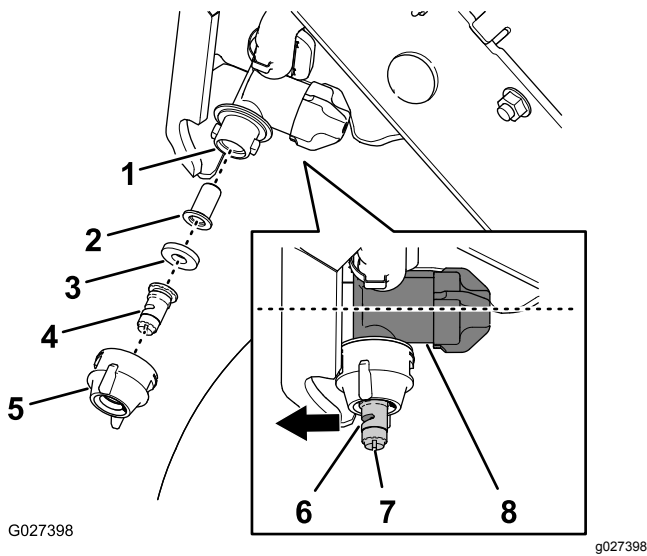

Figure 53
1. Rotate the nozzle cap 90° counterclockwise and remove the cap from the nozzle body (Figure 53).
2. Remove the sprayer tip, gasket, and strainer from the nozzle body (Figure 53).
4. Assemble the strainer into the nozzle body (Figure 53).
5. Assemble the sprayer tip and gasket into the nozzle cap (Figure 53).
6. Install the tip, gasket, and cap onto the nozzle body (Figure 53).
Note: Use the slot to rotate the atomizer (Figure 53) of the sprayer tip forward (in-line with the flow-regulator case of the nozzle body).
7. Rotate the nozzle cap 90° clockwise (Figure 53).